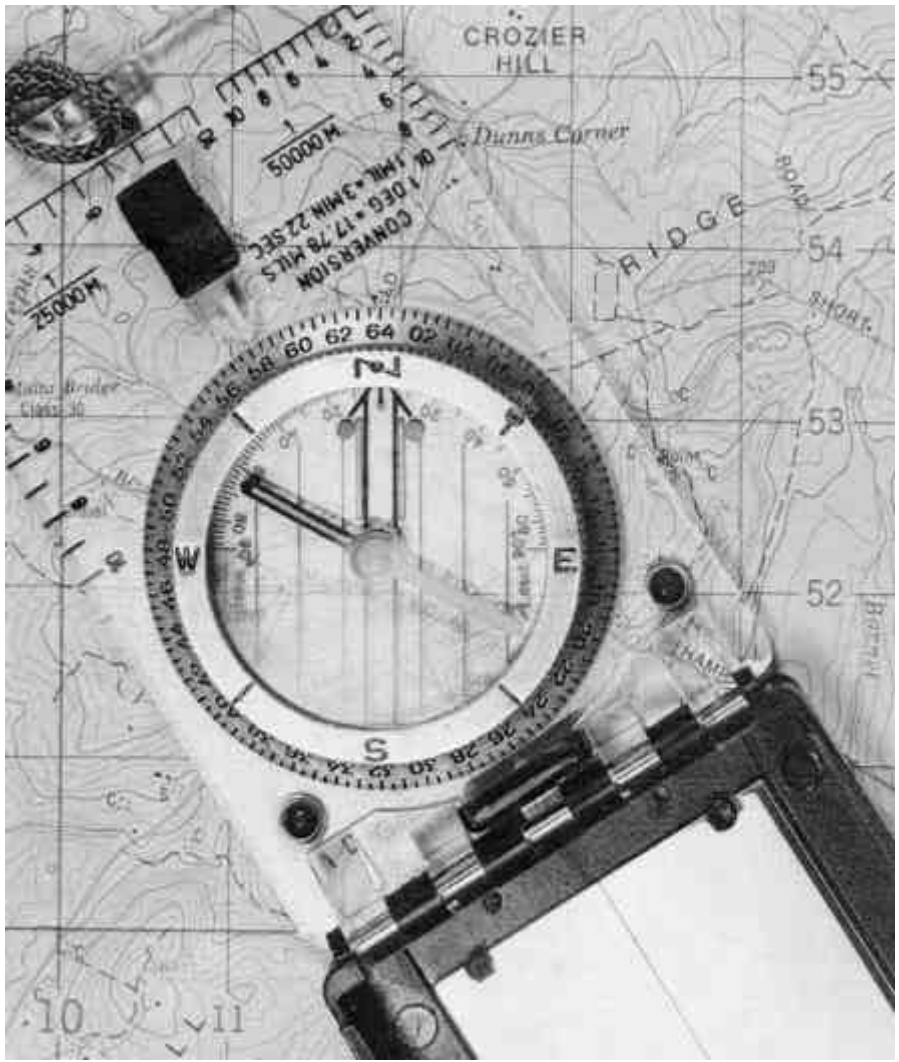

Figure 8-13 Determining the Grid Bearing
2. Then, holding the compass in position on the map, turn the graduated dial so the meridian lines are parallel to the north-south grid lines (eastings) ensuring that the north (N) on your dial is towards the top of your map. The grid bearing of B from A is then read off the graduated dial at the index pointer as shown in Figure 8-13, in this case 2,600 mils.